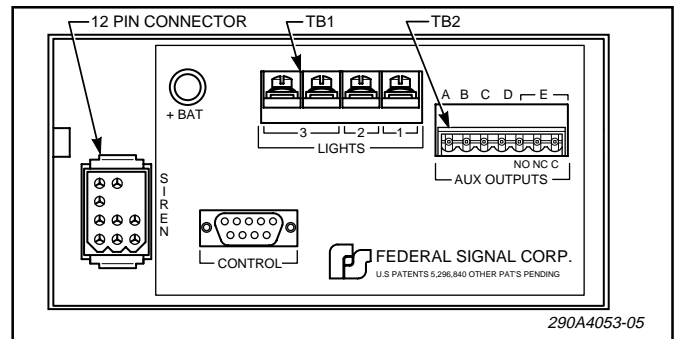

Figure 3-3. Rear View of SS2000-ERCSN1.
The power cable included in the carton is equipped with a twelve-pin plug that mates with the connector on the rear of the Amplifier/Relay Unit (see figure 3-3). This 4-foot cable is supplied with a 20-ampere in-line fuse. Additional wire (the same gauge or heavier) may be spliced to the leads as required. The various wires on the connector must be connected as follows:
5. See figures 3-3 and 3-7. Connect wires from the light bar or accessories to TB1-1 through TB1-3 or TB2-A through TB2-E as applicable. All wire connections for TB2 will be made with the right angle plug. (See face plate for relay designators.) Refer to the instructions packed with the light bar or accessory for proper wire gauge, current requirements, and any additional instructions. Do NOT exceed fuse ratings shown in table 3-1.